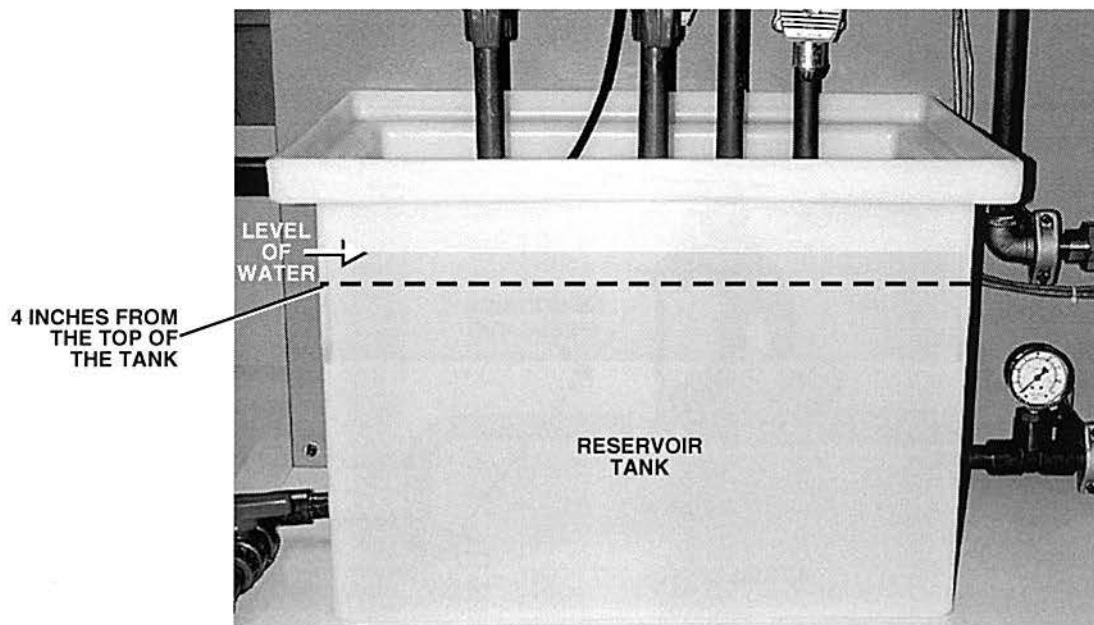

Figure 46. Reservoir Tank Filled
- 2. Check the reservoir tank level to make sure it is above 4 inches from the top of the tank, as figure 46 shows.